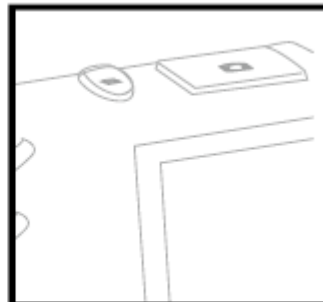

Figure.4
4. Target the camera at the desired object. Push  to capture a .jpg image or  to record an .avi video. (Figure 4)